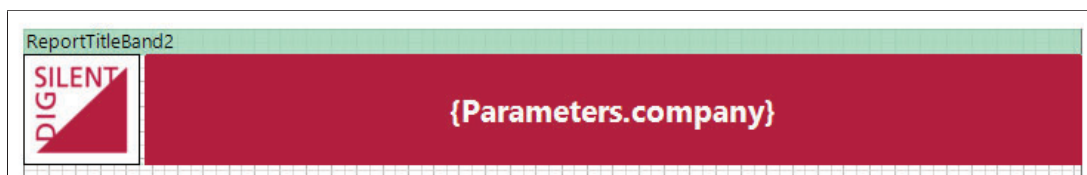

Figure 4.1: Report Title Band in the designer
- An example of the report title band with the applied changes is shown in Figure 4.1.